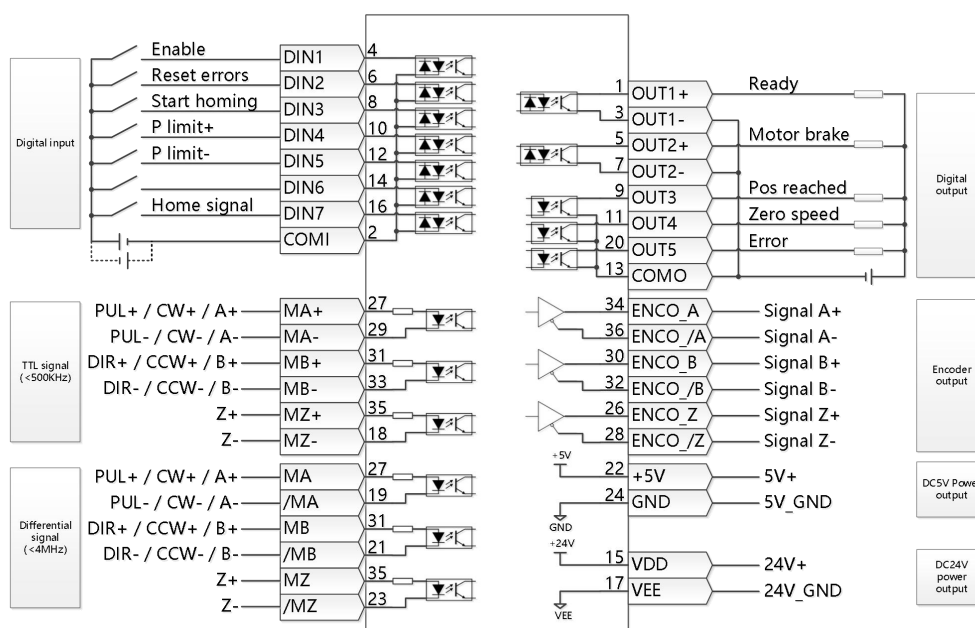
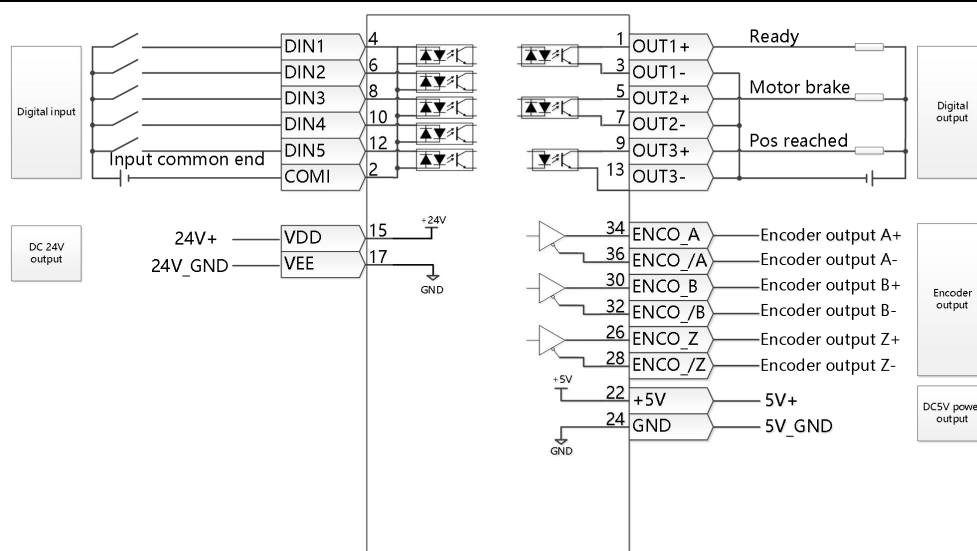

Figure 3-18 FD5-LA/CA drive IO mouth definition default
Figure 3-20 FD5-PA drive IO mouth definition default
- Figure 3-18 shows the X1 wiring of the FD5-LA/CA drive default IO function, Figure 3-20 shows the X1 wiring of the FD5-PA drive default IO function. More I/O functions can be defined by using the digital panel or the debugging software on the upper computer. For more details on IO features, see Chapter 5, Section 5.5.